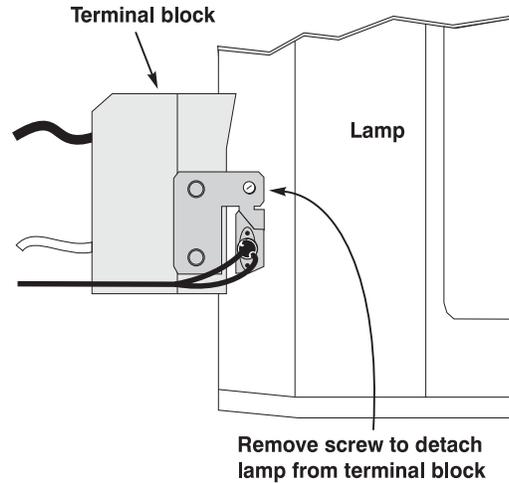

Figure 4.4. Detach lamp from terminal block (TOP VIEW)
- Rotate the lamp so that the terminal block is on the other side. At the top of the terminal block, remove the single screw securing the lamp module to the terminal block. See Figure 4.4 (shows top view). The lamp should now be fully free—refer to the recycling/disposal instructions provided with the new lamp.